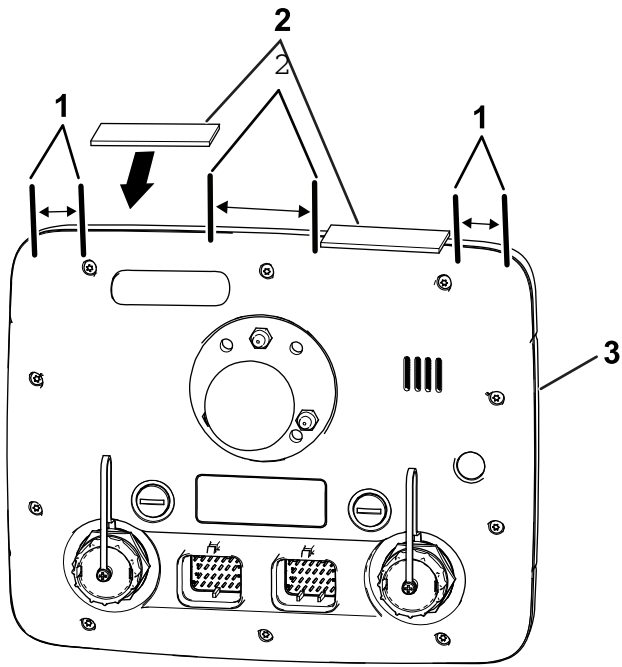

Figure 166
- At the top of the sprayer monitor, align the strips to the sprayer monitor as shown in Figure 166.